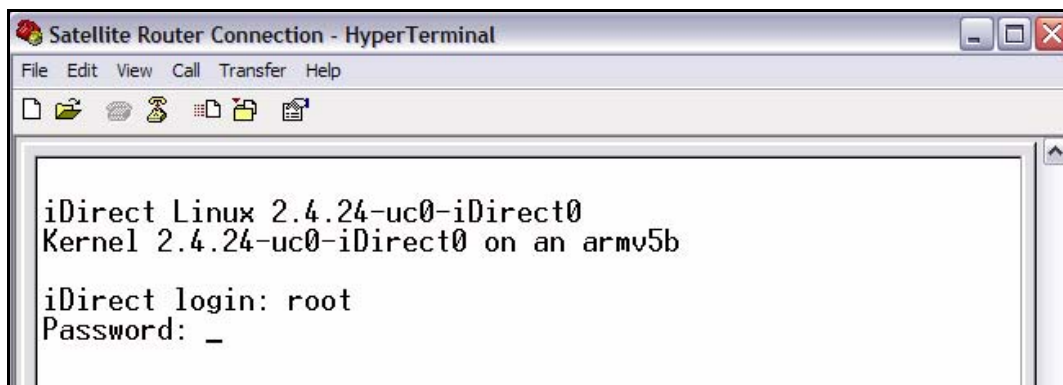

Figure 4. Logging On to root Account During a Console Session
13. At the iDirect login prompt, enter **root** (Figure 4).